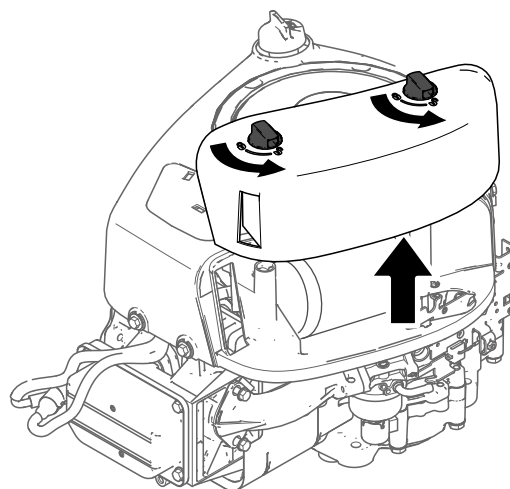

Figure 37
- Install the cover and secure it with the latches (Figure 37).